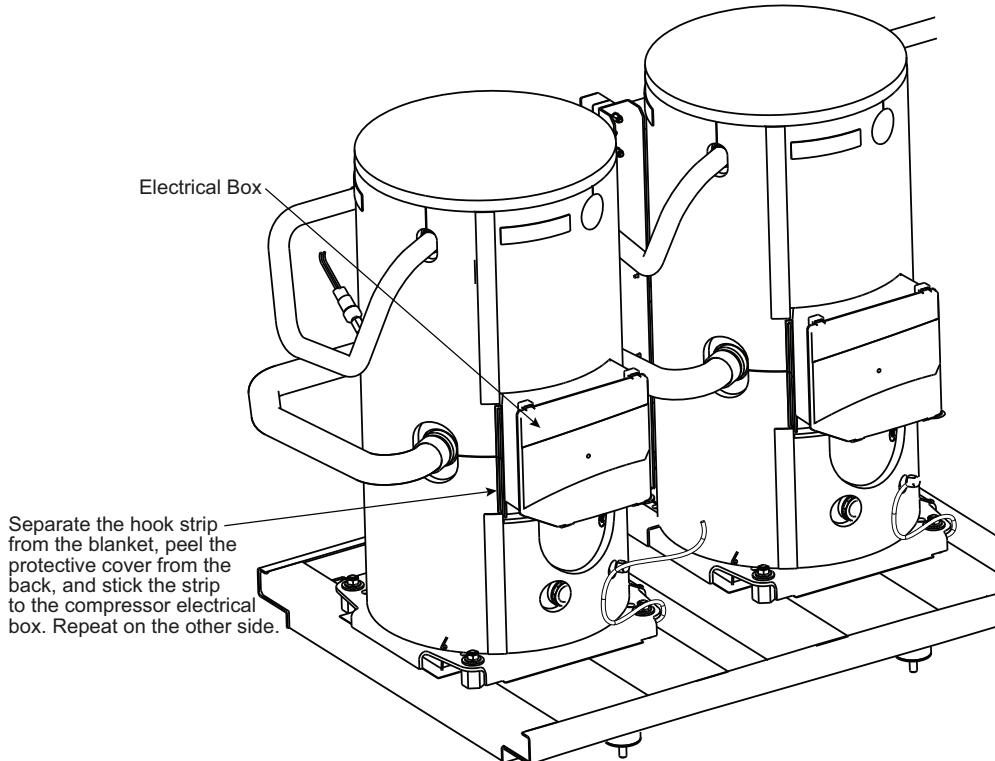

Fig. 7 — 30MP051-080 Compressor Sound Blanket
For 30MP051-080 units, the blanket will not cover the compressor terminal box. See Fig. 7.
- c. For units 30MP051-080: The wires pass outside the blanket, the terminal box is outside the blanket, and there is a cutout for the oil equalizer line. See Fig. 7 for 30MP051-080 units.